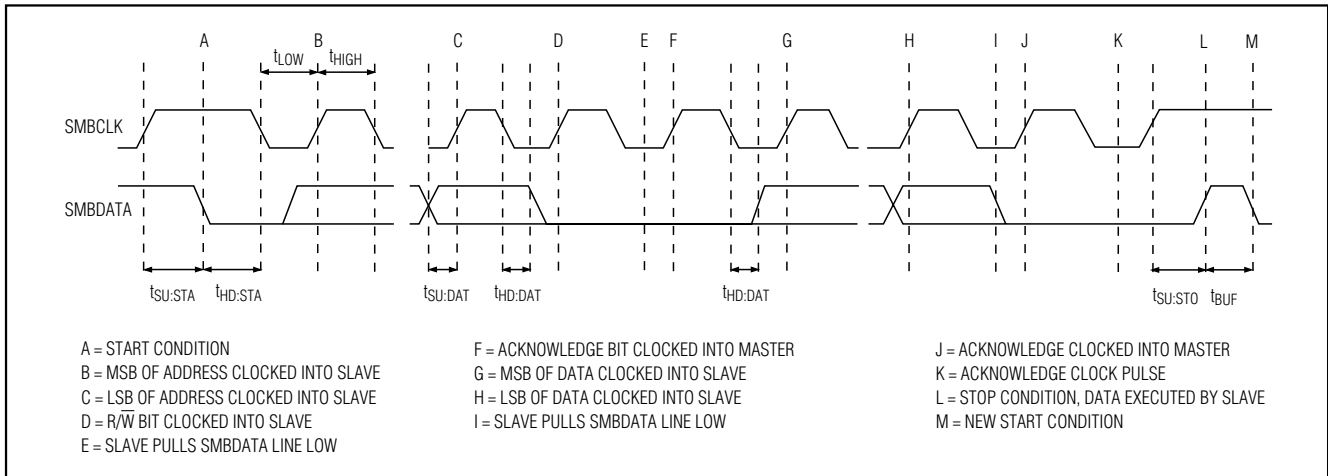

Figure 15. SMBus Write Timing
condition (P), which is low-to-high transition on CRF/SDA, while CTL/SCL is high. The bus is then free for another transmission. Figures 15 and 16 show the timing diagram for signals on the 2-wire interface. The address-byte, command-byte, and data-byte are transmitted between the START and STOP conditions. The CRF/SDA state is allowed to change only while CTL/SCL is low, except for the START and STOP conditions. Data is transmitted in 8-bit words and is sampled on the rising edge of CTL/SCL. Nine clock cycles are required to transfer each byte in or out of the MAX1996A since either the master or the slave acknowledges the receipt of the correct byte during the ninth clock. If the MAX1996A receives its correct slave address followed by $R/\overline{W} = 0$, it expects to receive 1 or 2 bytes of information (depending on the protocol). If the device detects a START or STOP condition prior to